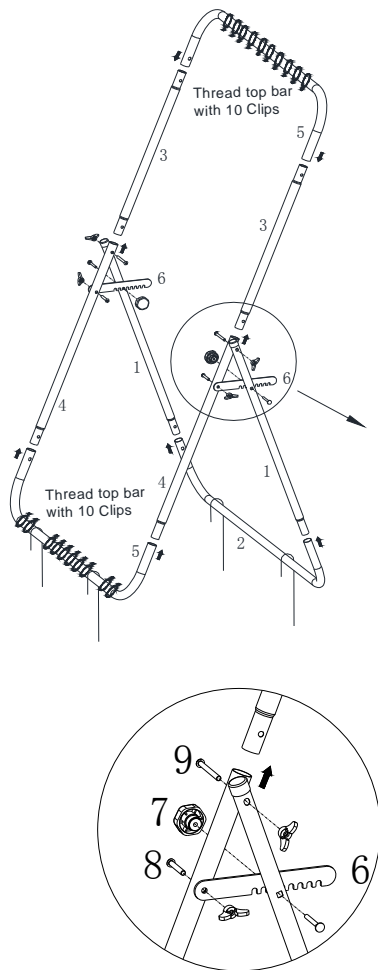

Figure 1. Frame Assembly
1) Slide 10pcs of Part #10 onto top Part #5. Repeat this step for bottom Part #5. Follow Figure 1 to assemble the rest of the frame.